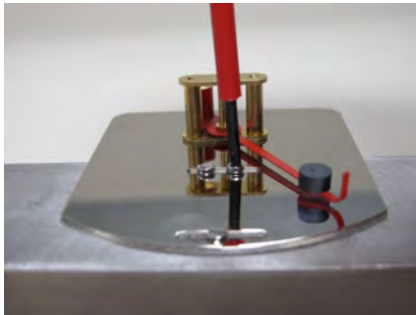

Fig. 68
15. ▶ Position the display base plate on the device body and lightly tighten the mounting screws, so that the base can still move (Fig. 68). Make sure that the countersunk head screw is used for the long groove (pointer tip end) and the two (2) cylinder head screws are used for the base center.